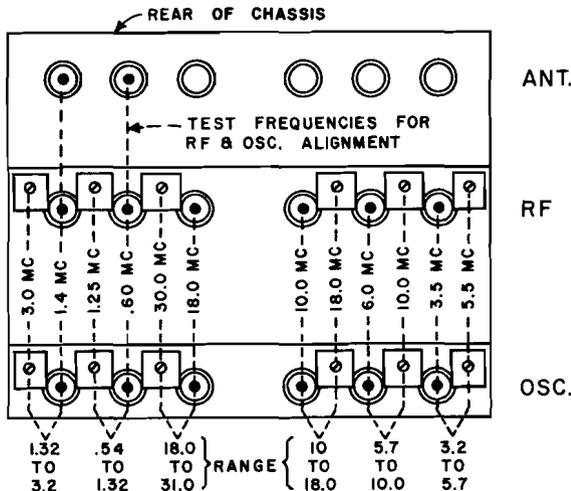

Fig. 9 - Diagram for tuning IF Amplifier, RF Stage and H. F. Oscillator
As shown on the chart, Figure 9, the front row of adjustments control the H. F. oscillator frequency and consequently dial calibration.
3. Change signal generator frequency to 1.25 Mc as shown in figure 9. Set MAIN TUNING dial on 1.25 Mc to correspond. Adjust trimmer capacitor C73 to tune in signal, and C69 for maximum response.